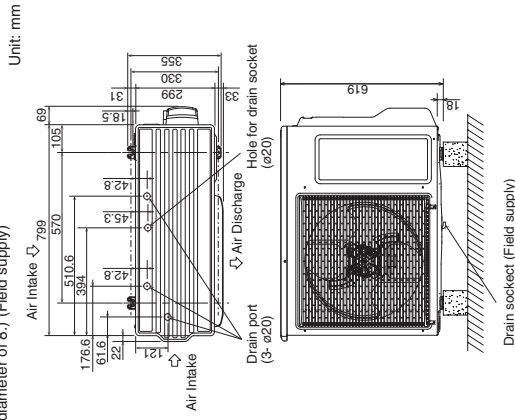

Fig. 3-1
- See Fig. 3-1 for the anchor bolt dimensions.
- Be sure to anchor the feet with anchor bolts (MB). In addition, use anchoring washers on the top side. (Use large square 32 x 32 SUS washers with nominal diameter of 8.) (Field supply)